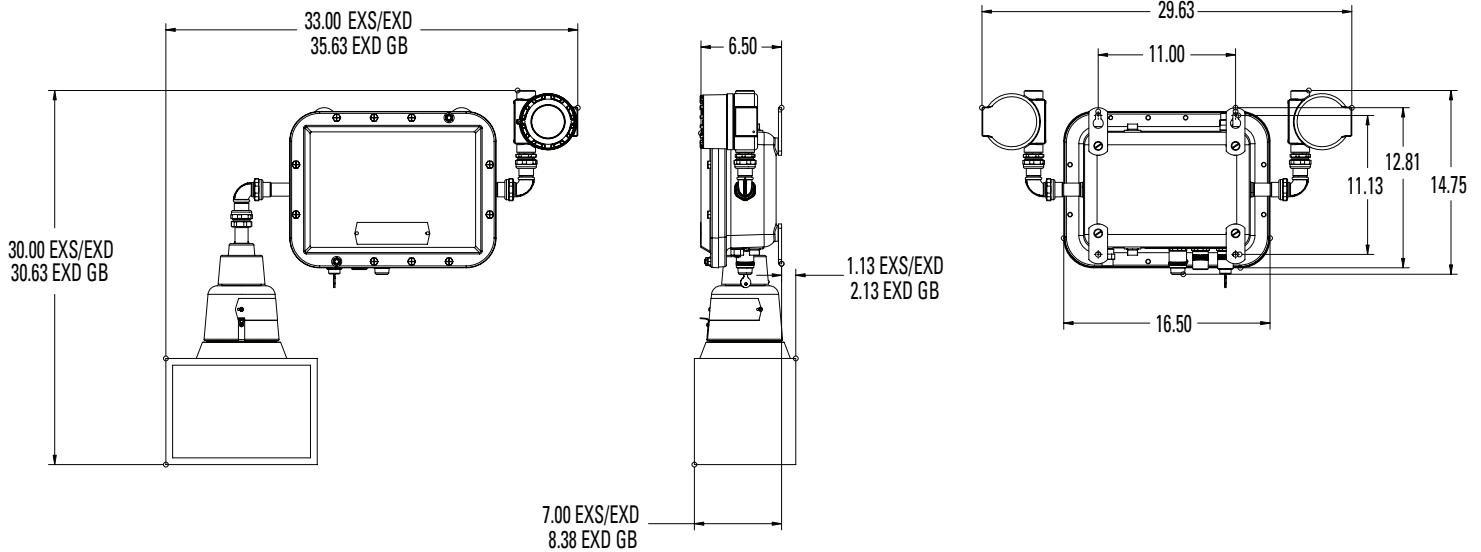

Figure 1. ELPSM22 and ELPSM20 EXS/EXD Dimensions
- Select mounting location that will provide suitable strength and rigidity for supporting power supply and attached lighting equipment. Figure 1 shows the overall dimensions and mounting dimensions for the four (4) mounting feet.